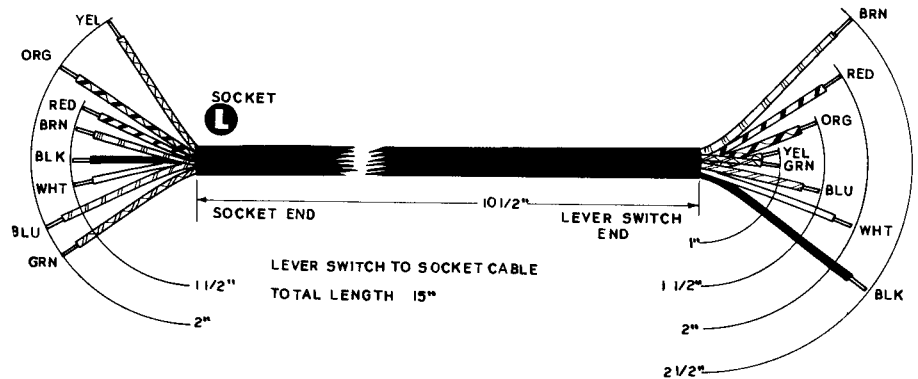

Figure 8A
- ( ) Connect a 12 1/4" length of hookup wire from CC6 (NS) to DD3 (S-1). Pass the lead through grommets PP and QQ and dress around the lever switch assembly as shown in Pictorial 5.
- ( ) Connect a 6 1/4" length of hookup wire from CC11 (S-1) to GG1 (NS). Pass the lead through grommet EE. See Pictorials 3 and 5.
- ( ) Connect a 5" length of hookup wire from A1 (S-2) to DD1 (NS).
- ( ) Connect a 6 1/4" length of hookup wire from A2 (S-2) to BB22 (NS).
- ( ) Connect a 15" length of hookup wire to K4 (S-1). Dress the lead around the lever switch assembly, through grommets QQ and FF to the top of the chassis. Connect the other end of the lead to terminal strip RR (NS).
- ( ) Prepare the 15" length of 8-wire cable as shown in Figure 8A. Cut all the leads to the length indicated (some leads are not cut off as their entire length will be used), strip off 1/4" of the plastic insulation from each lead and carefully twist and tin the exposed wires.